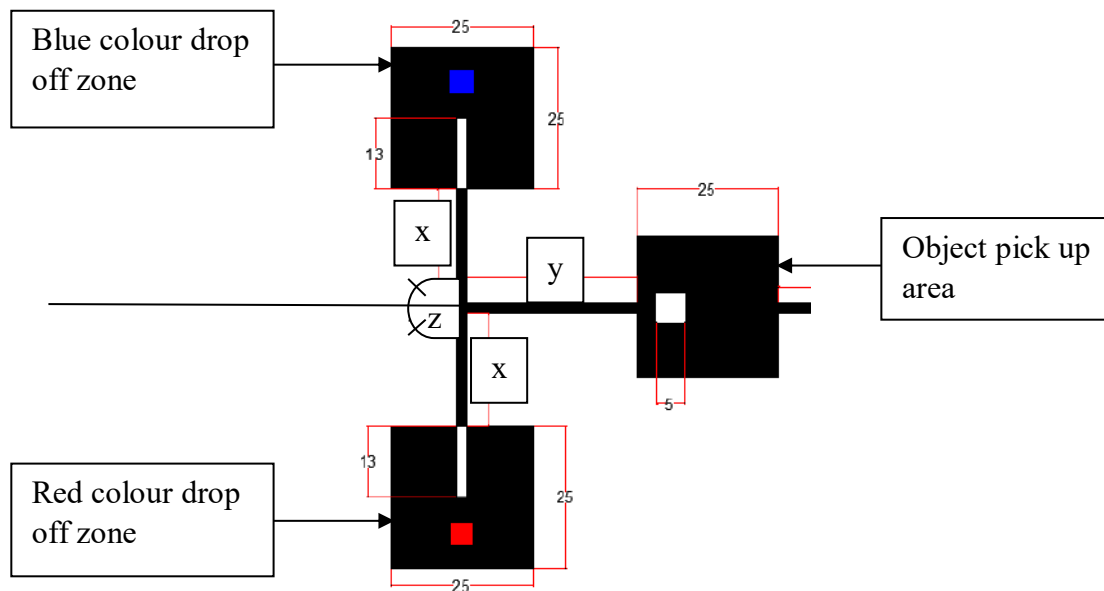

Figure 6: Level 2 Summary
- The *Figure 6* shows the summary of the pick and place competition. Please note that this is a highly simplified image and **is not representative of the actual playing field** that will be provided for the robots.